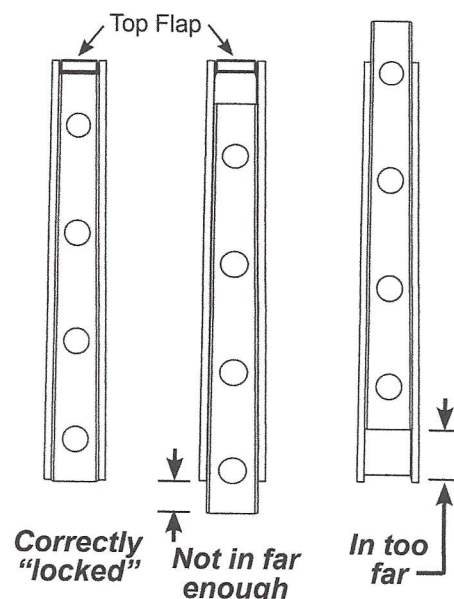

Figure 4
Important: Wedges are correctly "locked" when the inner wedge comes into contact with the top flap of the outer wedge, and the bottom edges align, as shown in figure 4. Avoid excessive force or damage to the wedges may occur.
TROUBLESHOOTING TIP: If chair does not sit level on the floor, check that all wedges are correctly "locked," as shown in figure 4.
8. With scrap cardboard or other protective material over the fabric, use a rubber mallet (not a standard hammer) to gently tap the seat and back cushions until the interlocking wedges are "locked" together. Refer to figure 4 on opposite side of this sheet.
TROUBLESHOOTING TIP: If chairs do not sit level on the floor, check that all wedges are correctly "locked" as shown in figure 4 on opposite side of this sheet.